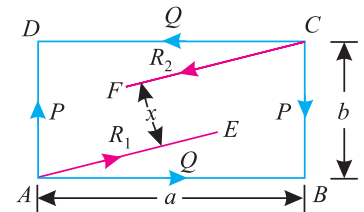

Fig. 4.14.
**Solution.** Given : The system of forces is shown in Fig. 4.14.